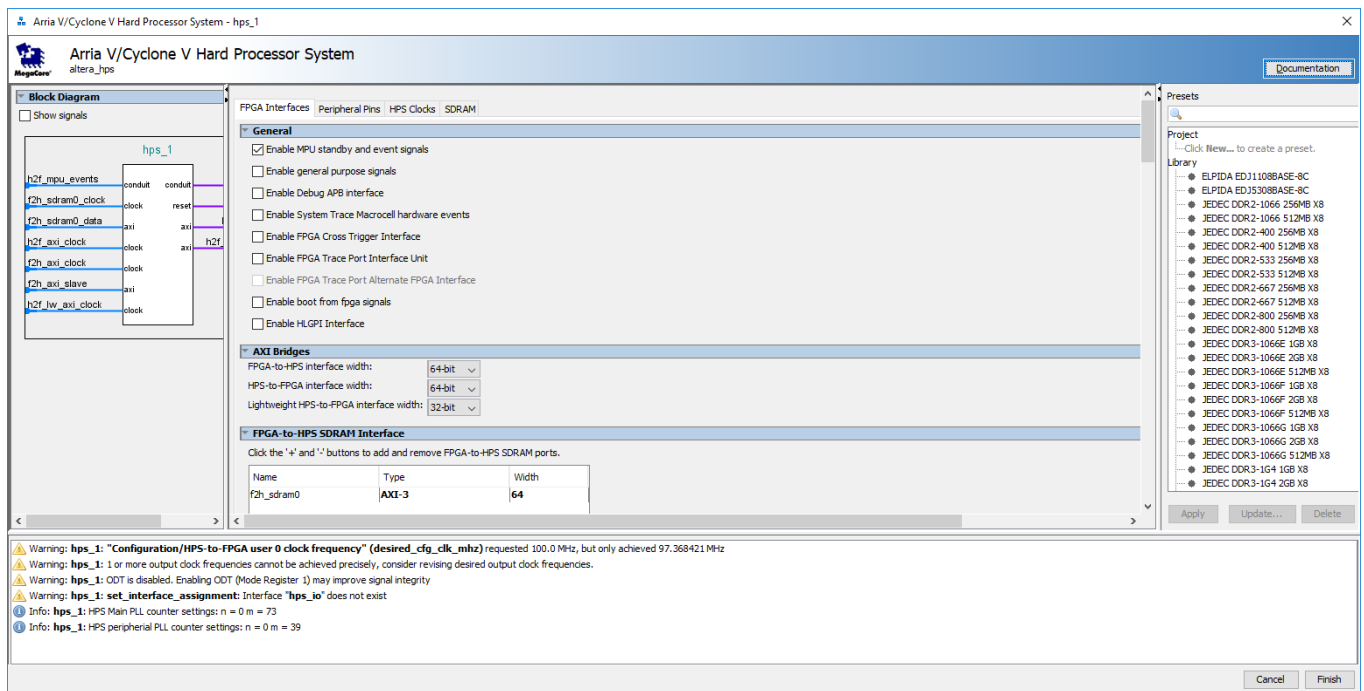

Figure 37 : Arria V/Cyclone V Hard Processor System
3. The default tab is FPGA Interfaces as shown in the Figure 37. Click the box according to the design.